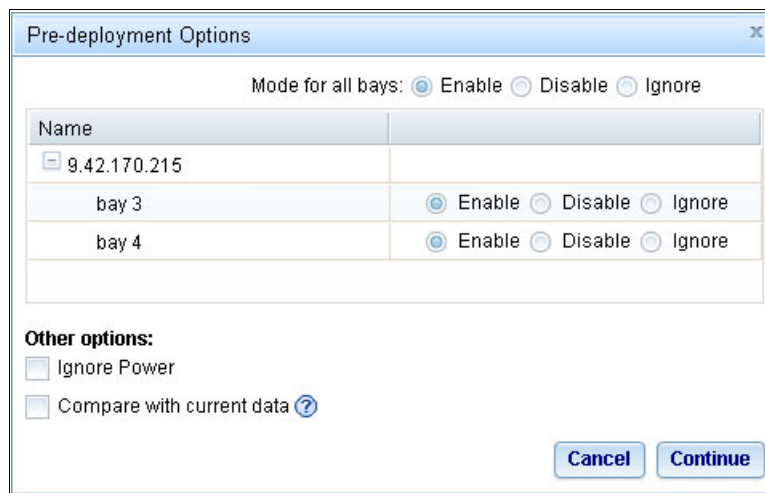

Figure 8-13 Options dialog box before pushing the deployment
4. The Pre-deployment Options window opens, as shown in Figure 8-13.